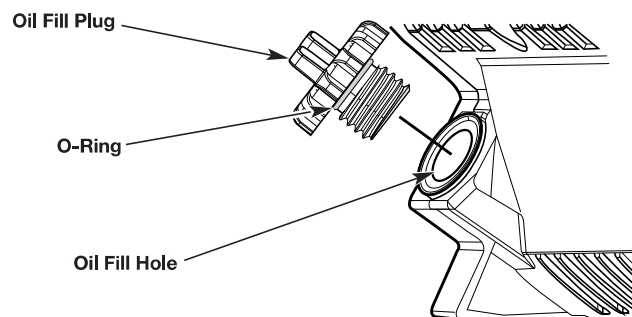

Fig. 7
2. Unscrew the oil fill plug (Fig. 7).
5. Reinstall the oil fill plug. Make sure the O-ring is in place on the oil fill plug (Fig. 7).